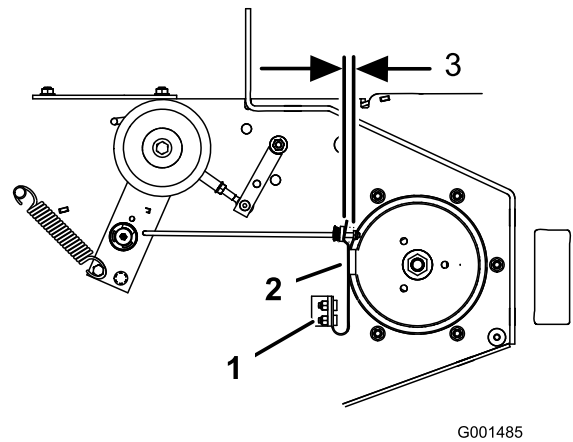

Figure 59
3. If necessary, adjust the spring-mounting bolts so that the blade-brake pad rubs against both sides of the pulley groove (Figure 59).
4. Adjust the nut at the end of the blade brake rod until there is 3 mm to 5 mm (1/8 to 3/16 inch) between the nut and spacer (Figure 59).